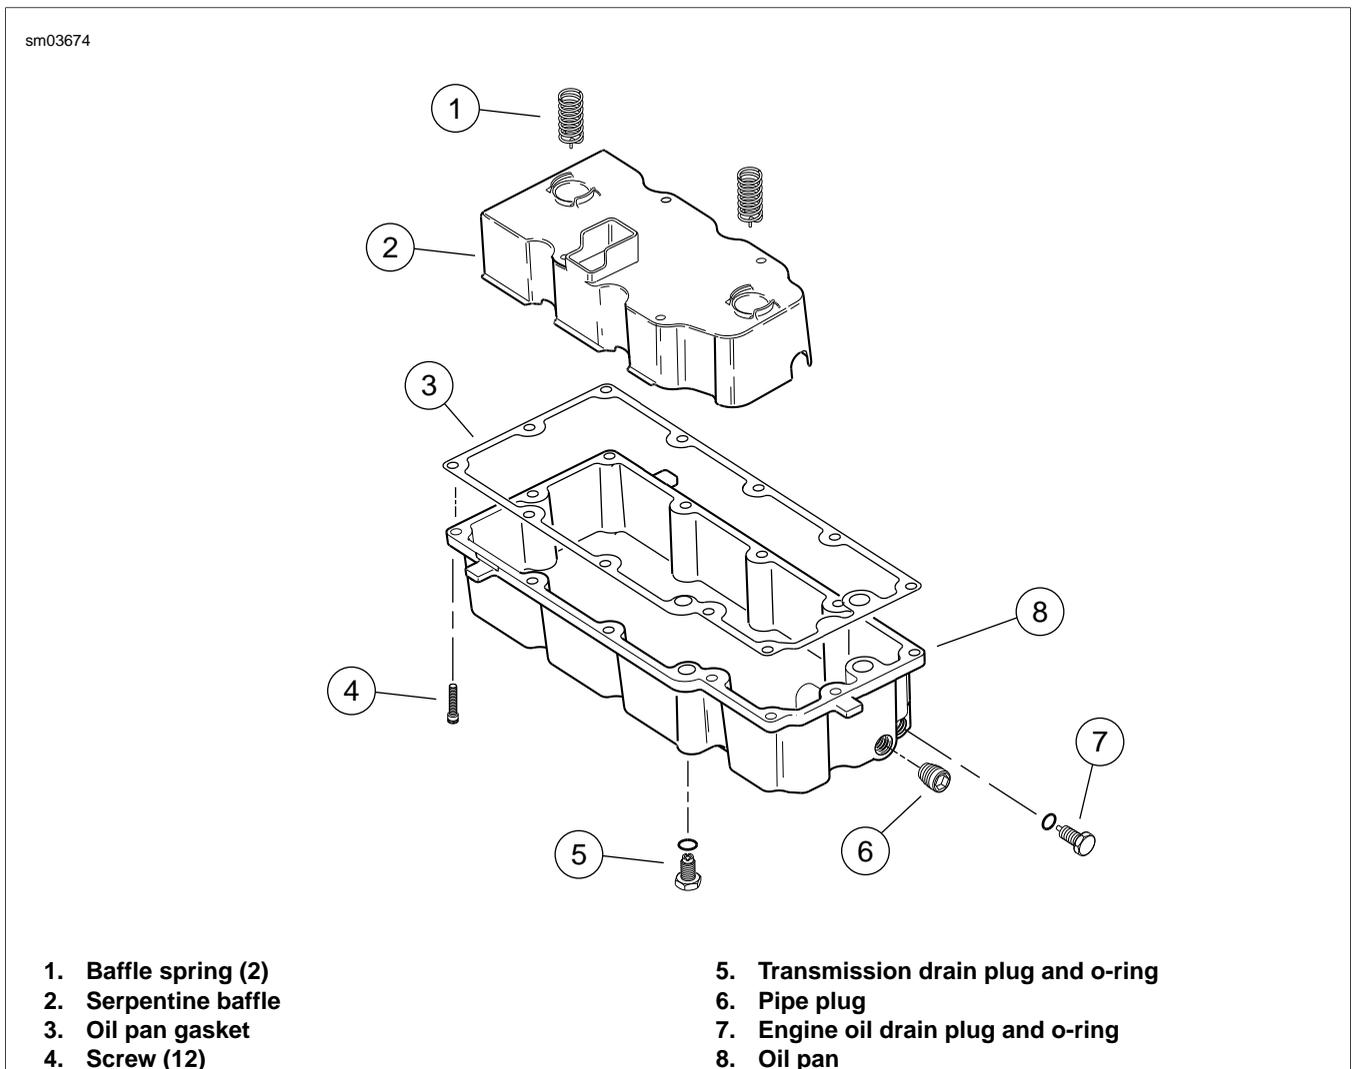

Figure 3-141. Oil Pan Assembly: Touring Models
2. See Figure 3-141. Drain fluids.
4. See Figure 3-141. Remove 12 screws (4) that secure the oil pan to the transmission.
1. See Figure 3-141. Clean and examine transmission and oil pan flanges.
3. Place **new** gasket (3) on oil pan flange. Allow sealer to dry until tacky.
4. Install serpentine baffle (2) and baffle springs (1) in oil pan.
5. Position gasket and oil pan at bottom of transmission. Install 12 screws (4), but only tighten about two turns after initial engagement.